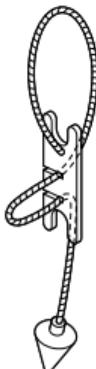

Fig.5.3
- 1) Use the plumb bob ⑯ to set up the instrument directly above the surveying point. (Fig.5.3)